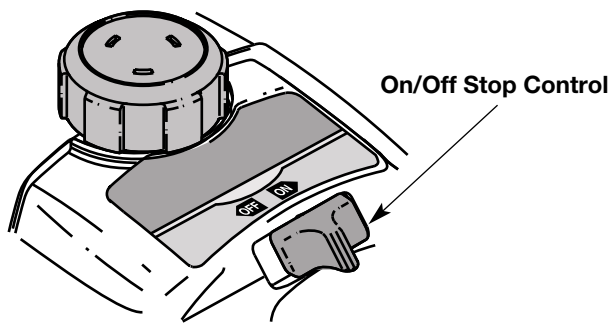
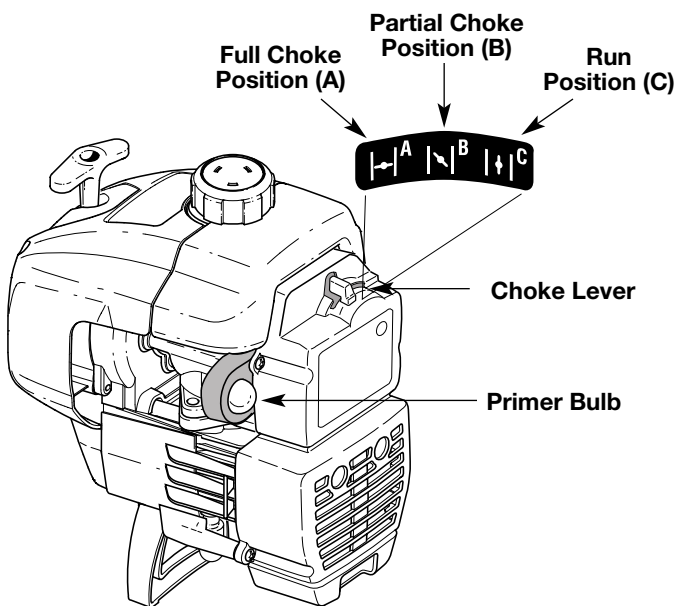

Fig. 7
Fig. 8
2. Put the On/Off Stop Control in the **ON** position (Fig. 7).
3. Fully press and release primer bulb slowly 5 to 7 times. Fuel should be visible in the bulb (Fig. 8). If fuel is not visible, press three (3) more times, or until it is.
4. Place the choke lever in the **FULL** choke position (A) (Fig. 8).
6. Place the choke lever in the **PARTIAL** choke position (B) (Fig. 8).
NOTE: If the engine floods while trying to start, place the choke lever in the **RUN** position (C) (Fig. 8). Squeeze the throttle control. Pull the starter rope briskly. The engine should start within three (3) to eight (8) pulls.
9. Squeeze the throttle control to warm up engine for 5 to 10 seconds. Place the choke lever in the **RUN** position (C) (Fig. 8).
NOTE: Choking is unnecessary when starting a warm engine. Put the On/Off Stop Control in the **ON** position (Fig. 7), and start in **PARTIAL** Choke position (B) (Fig. 8).
2. Put the On/Off Stop Control in the **OFF** position (Fig. 7).